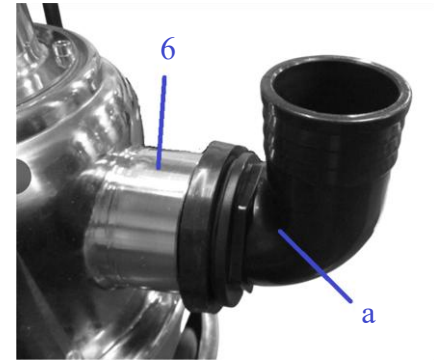

Fig. 2
- Install the provided outlet adapter and coupling (a) onto the water outlet (6) as shown in Fig. 2.